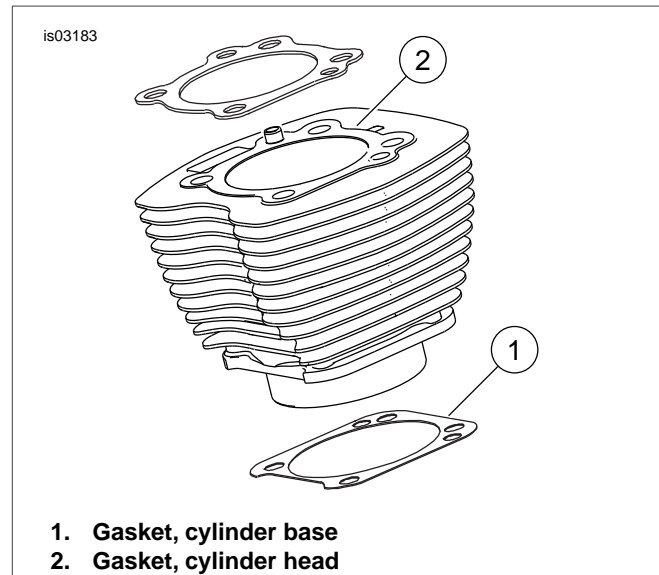

Figure 1. Cylinder Gaskets
See Figure 1. The 4.060 in. cylinder base gasket (1) and cylinder head gasket (2) eliminate the need for O-rings. Do not use O-rings on cylinder dowels or cylinder spigots.